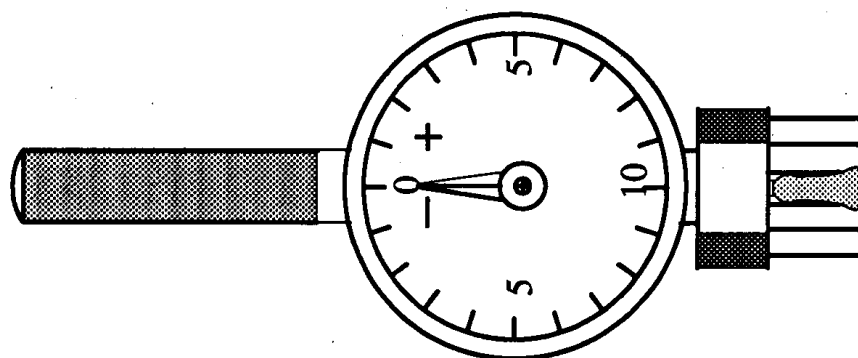

Figure 5 - Flushness Rivet Gauge
- Step 4. Ensure that un-riveted holes and installed rivets or lockbolts in the test piece assembly meet the requirements of the applicable fastener PPS. If the test piece assembly fails to meet the requirements of the fastener PPS, determine/correct the cause of the failure and prepare another test piece assembly before commencing production. Check countersink diameters with a countersinking gauge set-up and adjusted according to PPS 1.33. Measure flush head fastener protrusion using a flushness rivet gauge (see Figure 5). If the test piece assembly prepared after completion of the production run fails to meet the requirements of the fastener PPS, refer the corresponding production parts to Bombardier Toronto (de Havilland) MRB or Bombardier Toronto (de Havilland) delegated MRB for disposition.
- 5.6.3 When operating the drill riveter, ensure that holes and countersinks are prepared and fasteners installed within the tolerances specified in PPS 2.01, PPS 2.35 or PPS 2.38, as applicable. Check countersink diameters with a countersink gauge, set-up and adjusted according to PPS 1.33. The height and diameter of shop formed rivet heads must meet the requirements of PPS 2.01 or PPS 2.38, as applicable. Flush head fastener protrusion may be measured using a flushness rivet gauge (see Figure 5) to the values specified in the applicable fastener PPS's.